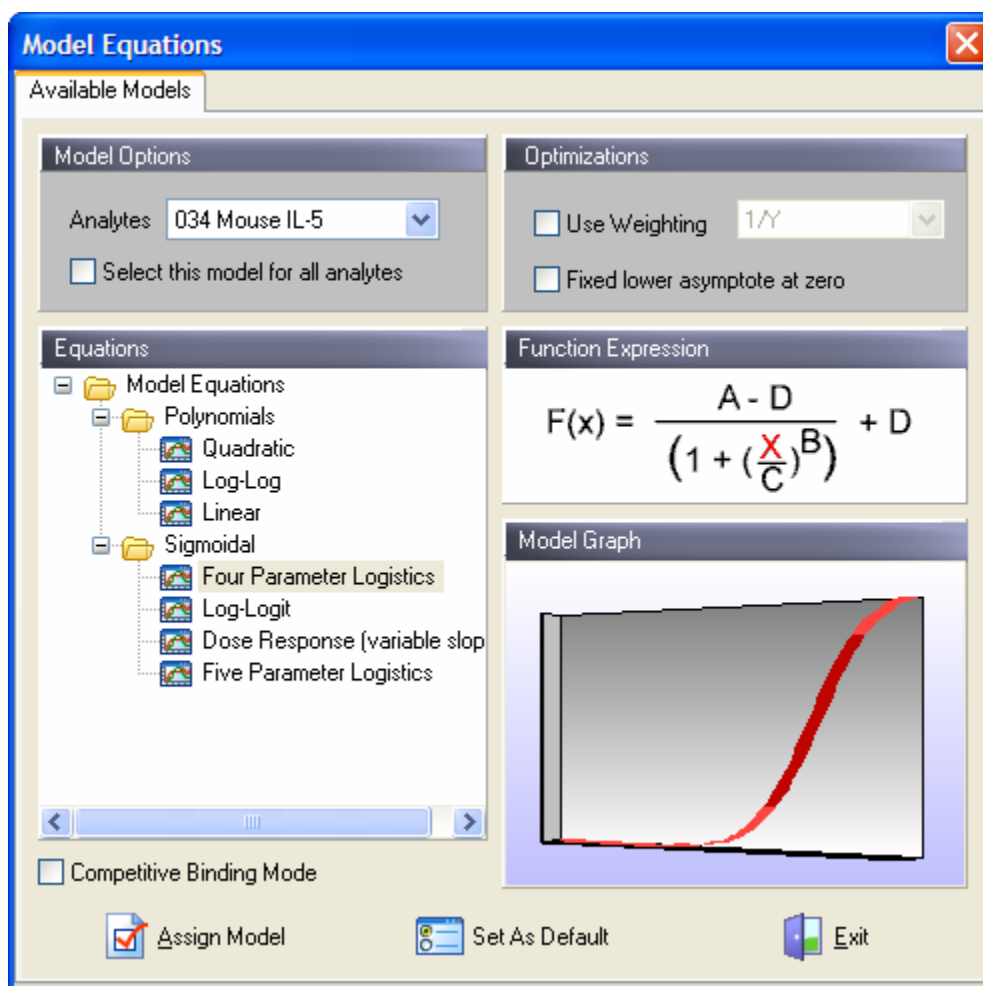

Figure 6.12 Model Equations dialog box
- ⇒ The Model Equations dialog box appears (Figure 6.12).